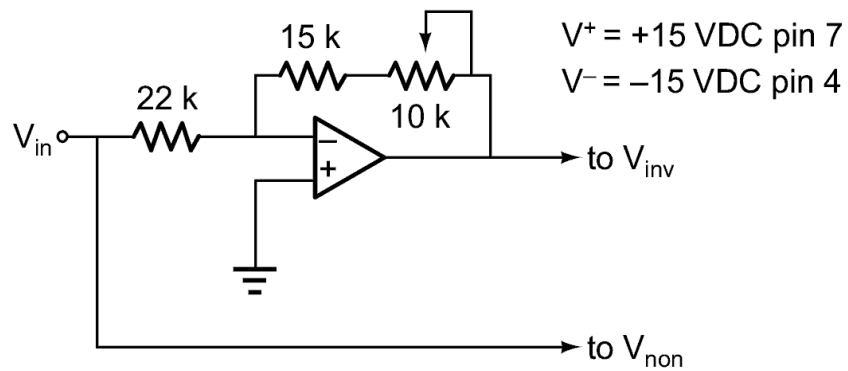

Figure 2
12. Assemble the circuit of Figure 2. Adjust the potentiometer to set the voltage gain to precisely -1 . This circuit is a simple phase-splitter and is used to generate a differential input signal.
13. Connect the circuit of Figure 2 to the original circuit as shown.